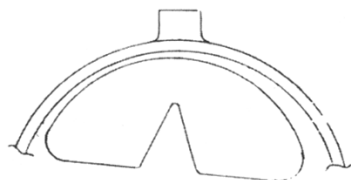

Figure 6-1:
6. In some cases, particularly in the smaller capacity Proving rings, it is impossible to back off the armature stem hex head screw enough to permit the electric reed vibrator to start. This is usually caused by an improper clamping action of the brass lock pin that causes the vibrator to shift out of alignment. This condition is readily noticed by observing the alignment of the front cover plate or the rear cover plate with the inside diameter of the Proving Ring (see Figure 6-1).